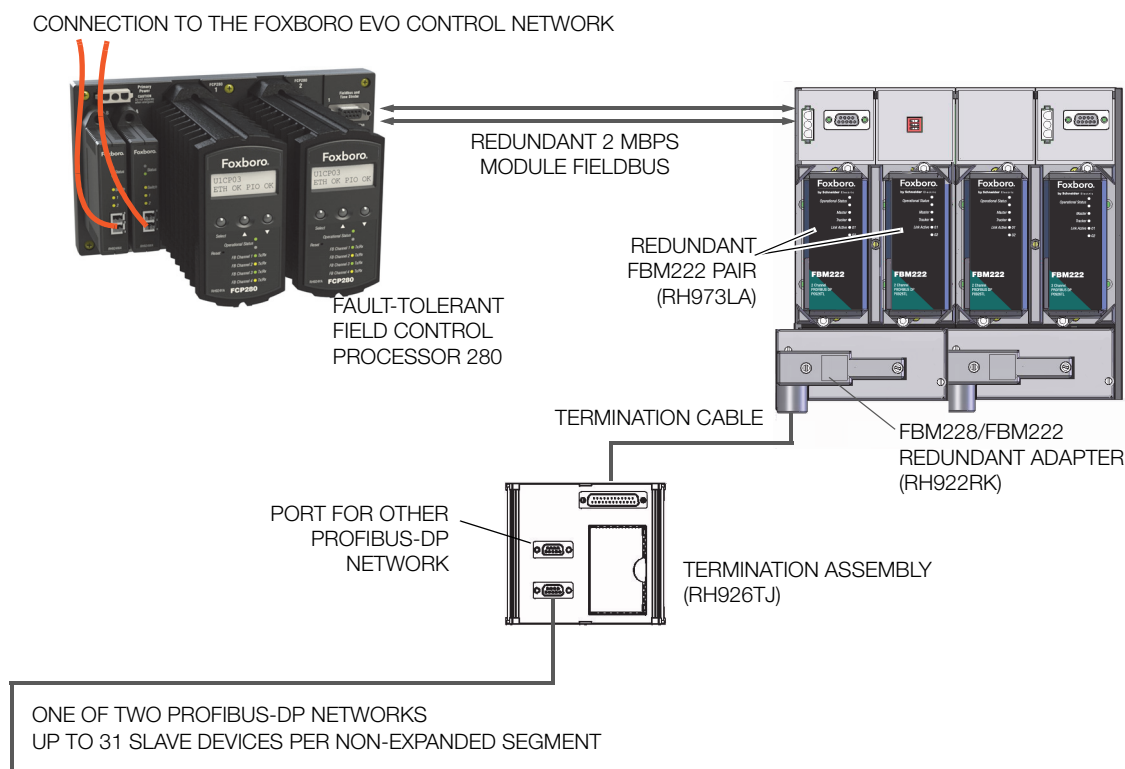
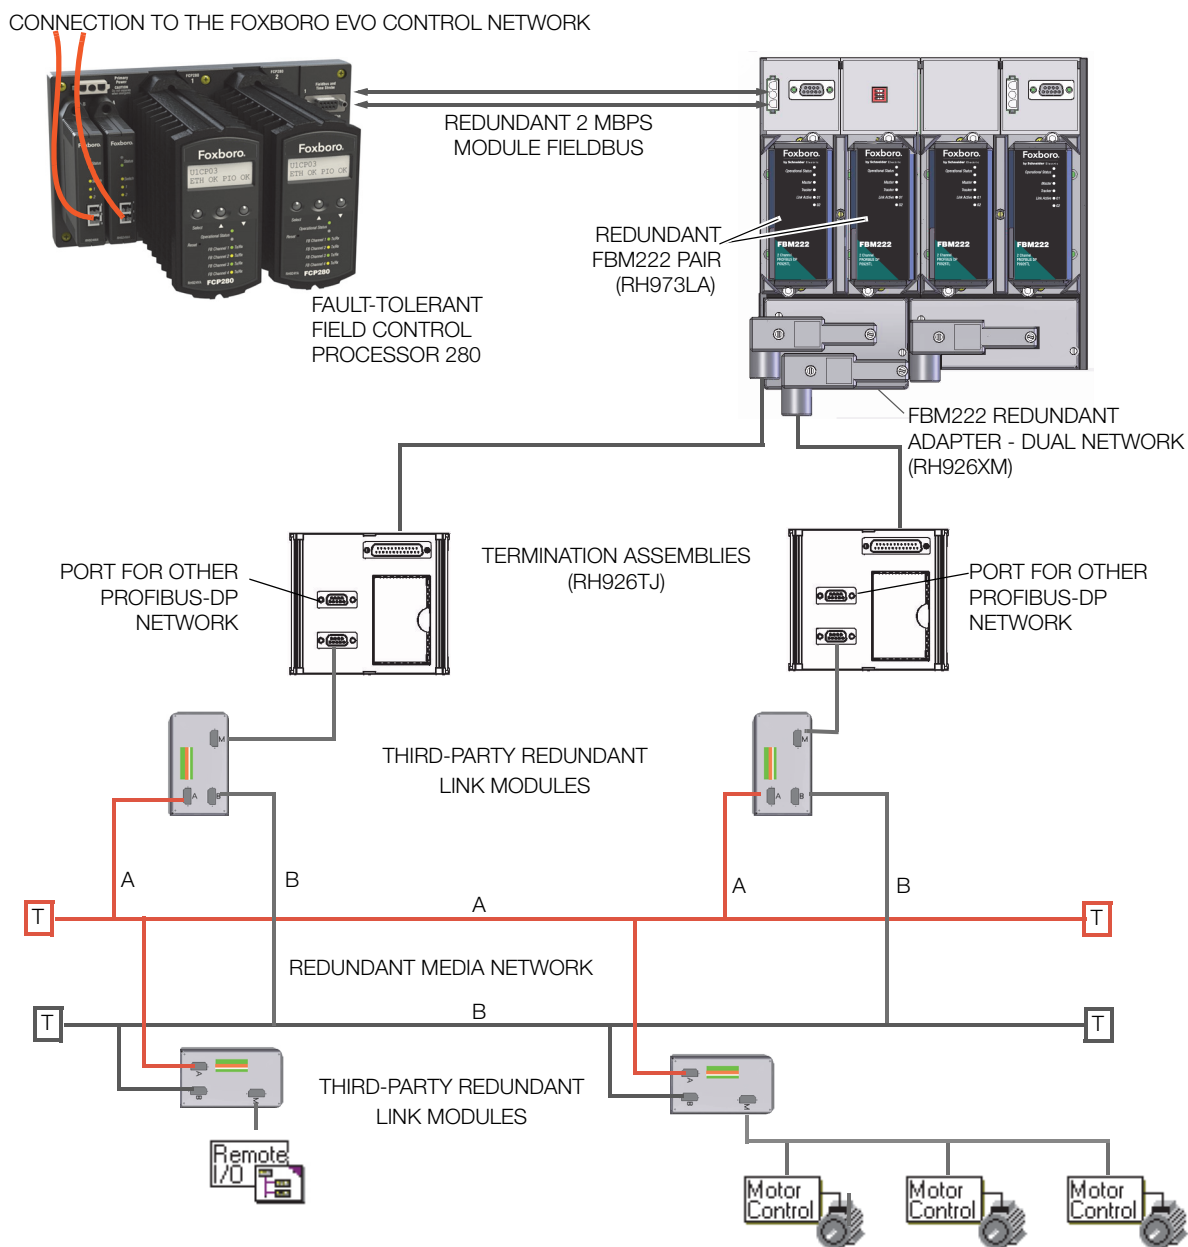

Figure 1. Redundant FBM222 with Single PROFIBUS-DP Network
Figure 2. Redundant FBM222s with Redundant Media PROFIBUS-DP Network
There are multiple ways to connect FBM222s installed as a redundant pair to a PROFIBUS-DP network. When the PROFIBUS segments are single networks as shown in Figure 1, an FBM228/FBM222
Redundant Adapter (RH922RK) connects a single termination cable to the redundant pair. The other end of the cable is plugged into a Termination Assembly (TA), which provides connections for the two network segments (Figure 1).
When the segments contain redundant media, two TAs are connected using termination cables and the FBM222 Redundant Adapter - Dual Network (RH926XM). The TAs in turn are connected to each network by third-party redundant link modules, such as the ABB™ Redundant Link Module (RLM01) (Figure 2). The Siemens™ Optical Link Module (OLM) can also be connected to these TAs in a configuration other than the one shown in Figure 2.
When deployed for use with an FCP280 (as shown in Figure 1 and Figure 2), the module is installed in an adjacent baseplate. When deployed for use with an FCP270, the module is installed in the same baseplate or in an adjacent baseplate. For both FCPs, the FBM222 communicates with the control processor over a 2 Mbps HDLC module Fieldbus. The FCP, in turn, is connected over a 100 Mbps switched network to other control stations, supervisory applications, system management stations, and other Foxboro control resources.
With the optionally redundant FBM222, a highly available system can be configured, as shown in Figure 2 and including:
In addition to the four-position baseplate shown in Figure 1 and Figure 2, the module can be mounted on any of standard FBM baseplates described in *Standard 200 Series Subsystem Overview* (PSS 31H-2S200). The baseplate is either DIN rail mounted or rack mounted, and includes signal connectors for the FBMs, redundant independent DC power connections, and I/O cable connections.